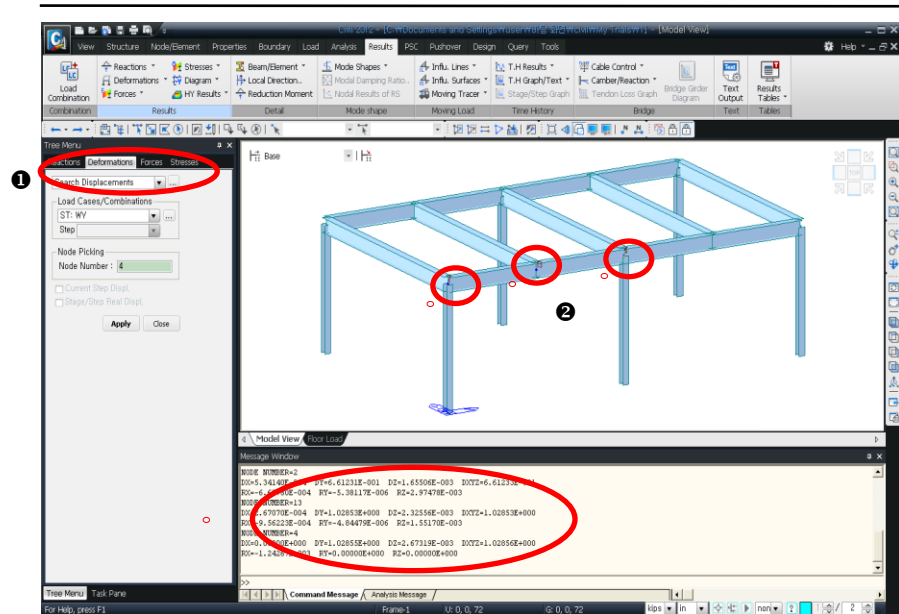

Figure 1.28 Verification of Displacements at Specific Nodes
1. Select **Search Displacement** from the functions selection field (Fig.1.28–①).
3. Select nodes **2, 4** and **13** with the mouse (Fig.1.28–②).